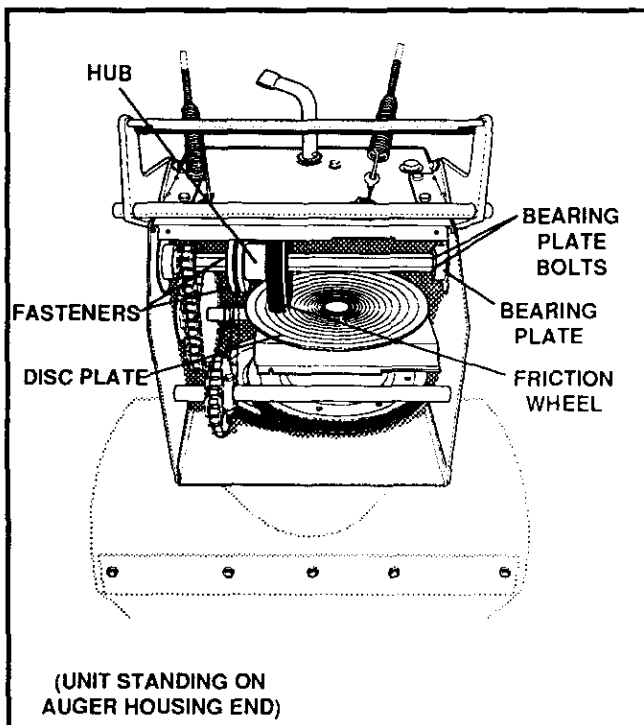

FIG. 15
- Stand the snow thrower up on the auger housing end (See FIG. 15).
- Remove the four bolts securing bearing plates (both sides) (See FIG. 15).
Position new friction wheel onto hub. See FIG. 15.